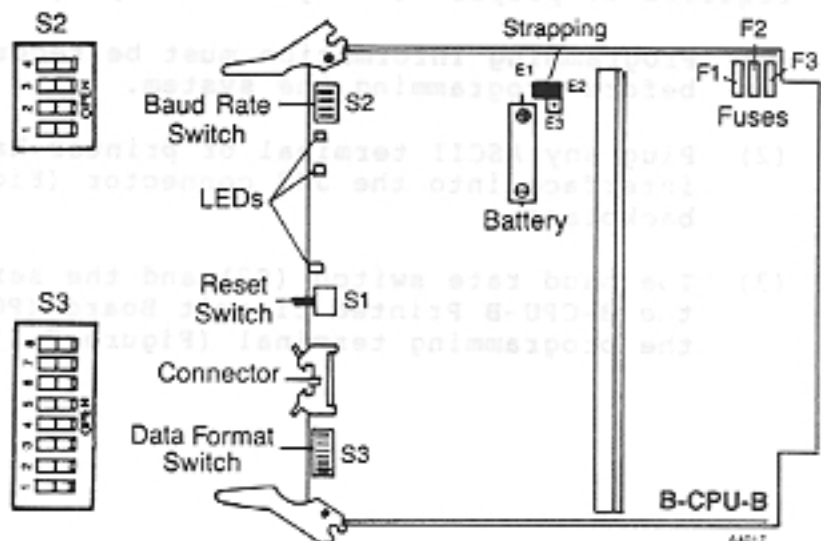

Figure 7-2 SERIAL DATA SWITCH (S3), BAUD RATE SWITCH (S2) AND RESET SWITCH (S1) LOCATIONS, TCX-128
- (3) The baud rate switch (S2) and the serial data switch (S3) on the B-CPU-B Printed Circuit Board (PCB) must be set to match the programming terminal (Figure 7-2).
(3) Press the reset switch (S1) on the CPU PCB (Figure 7-2), the following message appears: WELCOME TO CX-128. The system is now ready for programming.
- (7) Repeat steps 5 and 6 above.
(8) Press the reset switch (S1) on the CPU PCB (Figure 7-2), the following message appears: WELCOME TO CX-128. The system is now ready for programming.